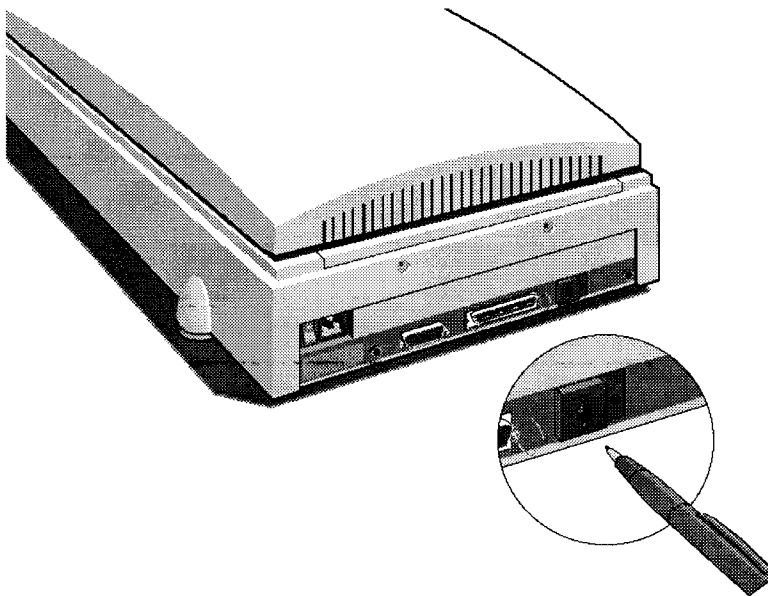

Fig. 3.1 Setting the SCSI ID number.
3. Insert a pencil into one of the small holes above or below the SCSI ID number at the rear of the densitometer (Figure 3.1).